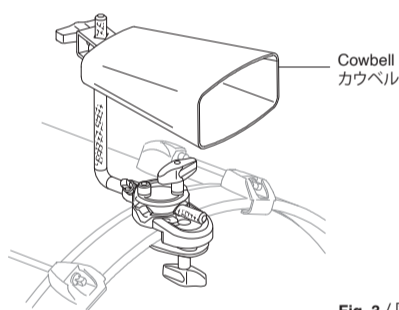

Fig. 3 / 図3
3. Attach a Cowbell, Block, or other Accessory to the L-Rod as shown (Fig.3) and secure it in the desired position.
に調整してください (図 3)。